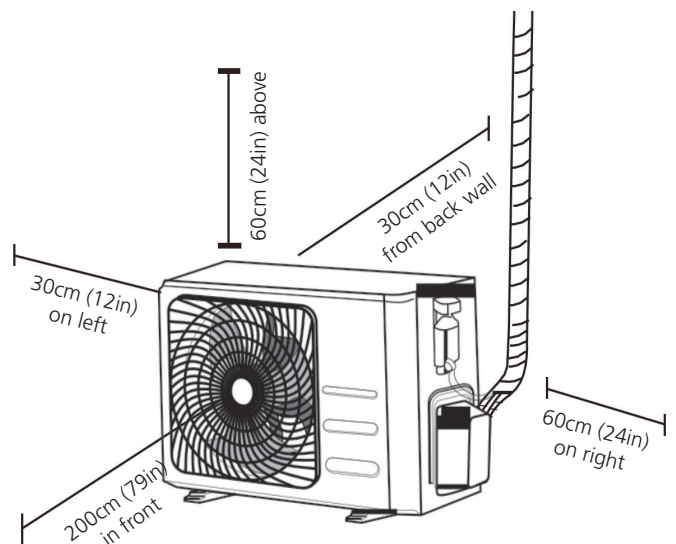

Fig. 5.1
- Meets all spatial requirements shown in Installation Space Requirements (**Fig. 5.1**)